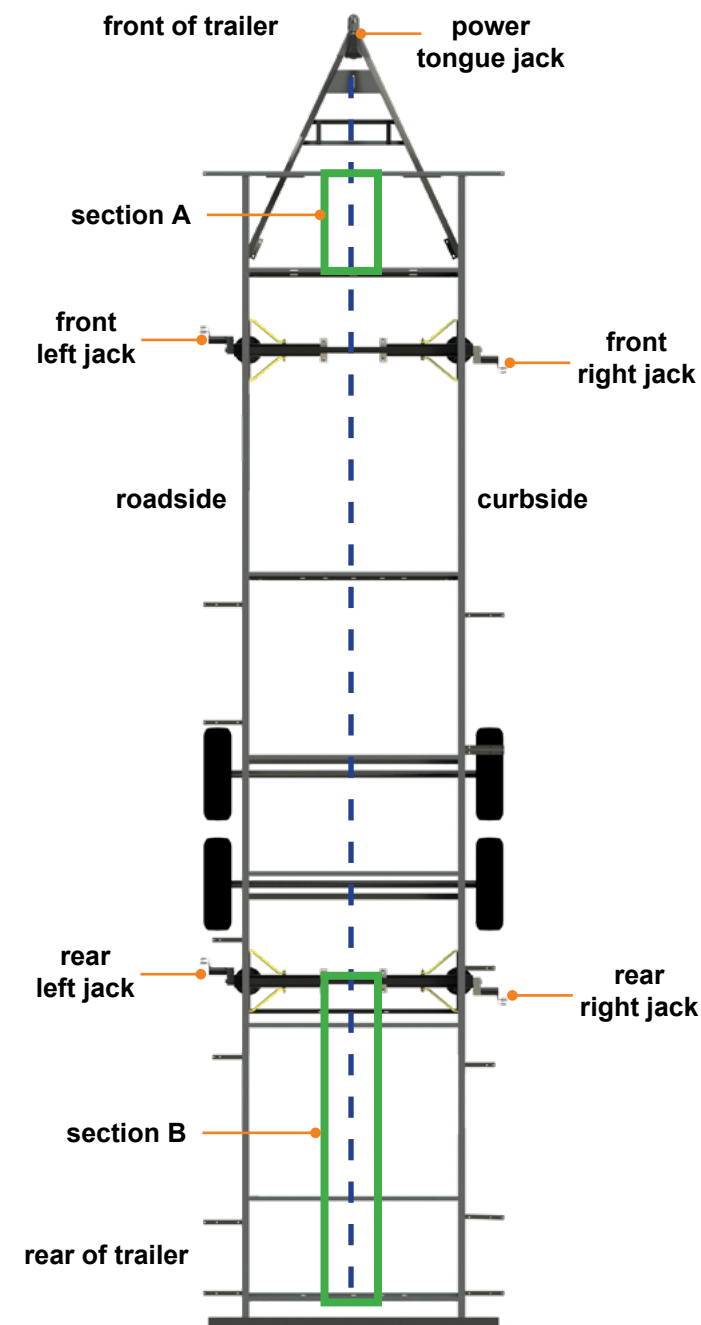
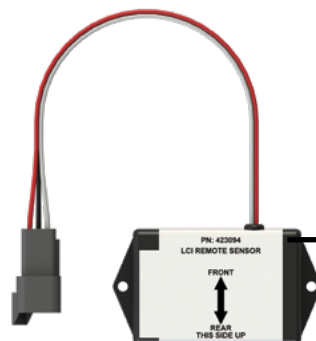
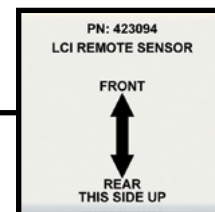

Fig.14
Fig.15
Fig.16
The leveling sensors have a limited mounting area for proper performance. The front sensor must be within 36" from the front of the frame as signified by section A in (Fig.14). Ensure that the front sensor is mounted in line or in front of the front leveling jacks. The rear sensor must be in line with or behind the rear leveling jacks, as signified by section B in (Fig.14). Both the front sensor and the rear sensor must also be mounted in line with the center of the frame, as signified by the dotted blue line in (Fig.14).
The Leveling Sensors (Fig.15) must be oriented on the crossmembers with the arrows on the top of the sensor pointing in the correct direction (Fig.16). See (Fig.14), sections A and B, for location clarification.
3. Attach the mounting plate and sensor assembly (**Fig.19B**) to the crossmember (**Fig.19A**) using two #12 x 1" screws (**Fig.19C**). Ensure that the plate is centered side to side on the frame and that the sensor is oriented properly. See (**Fig.14**) sections A and B for location clarification.